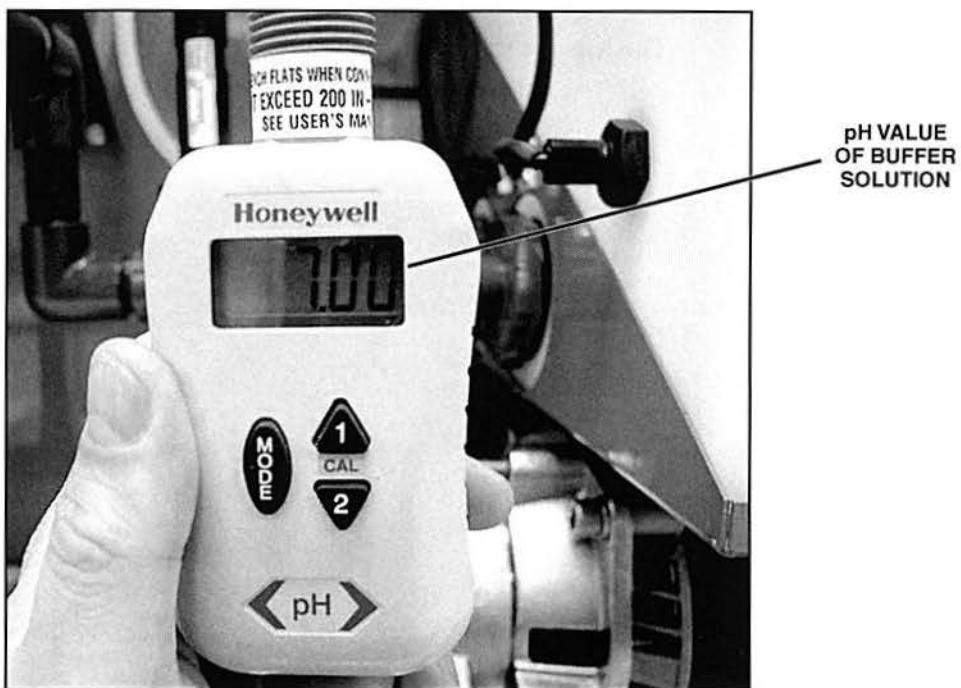

Figure 33. pH Value of Buffer Solution on Display
- L. Momentarily press the **MODE** key to accept the setting for zero calibration. The module should return to the Online mode, with the pH value of the buffer solution on the display, as shown in figure 33.